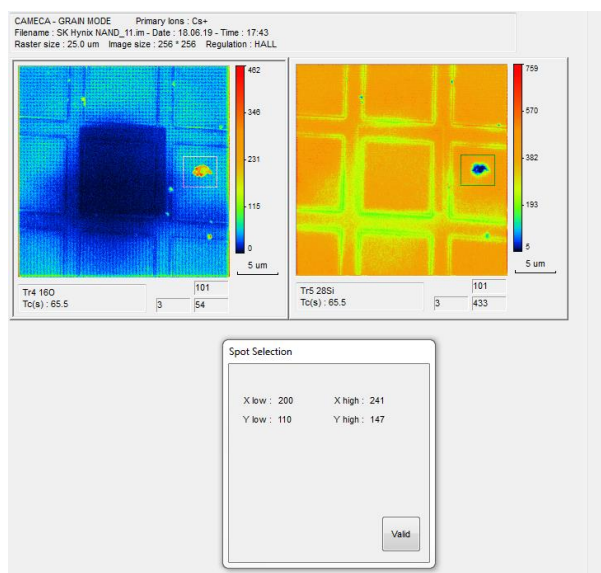

Figure 367: Analysis window in Grain Mode/Graphic. Manually draw the analysis area.
- In Analysis, draw the rectangle of the desired analysis area with the mouse and click “valid” in the small pop-up window (Figure 367) then “start acquisition” in the main window. Depending whether you are in isotope or image mode, you will obtain an isotope or image file.